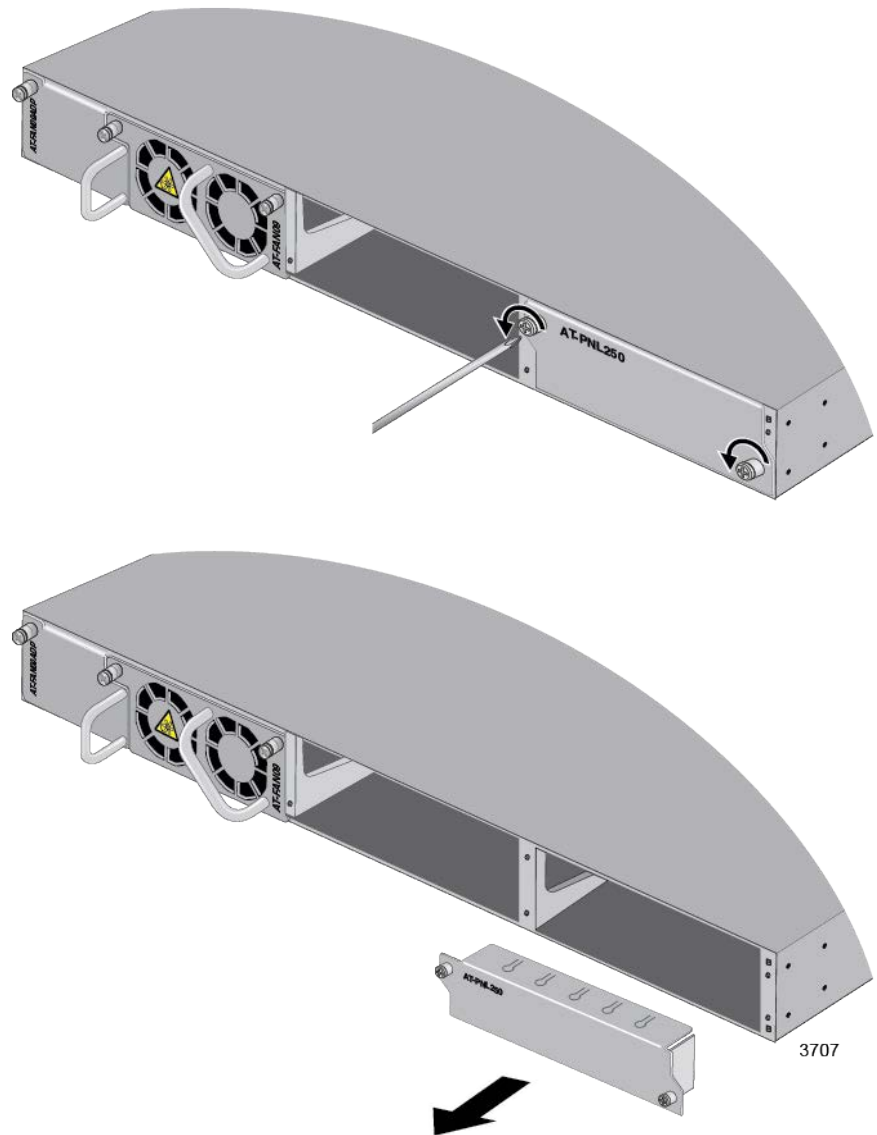

Figure 33. Removing the Blank Panel
2. Use a cross-head screwdriver to loosen the two captive screws on the blank panel covering power supply slot B on the back panel and remove it from the switch. Refer to Figure 33 on page 95.